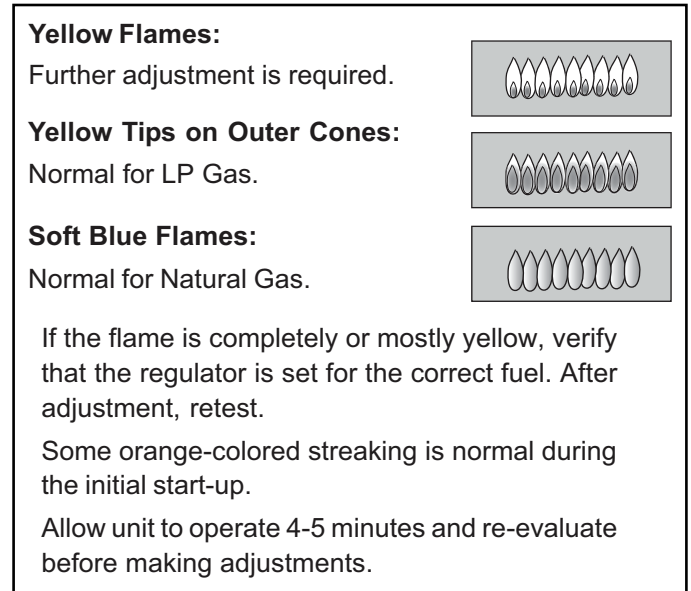

FIGURE 28: FLAME CHARACTERISTICS
**Test Flame: High Setting.** Turn burner on to HI. See *Figure 28* for appropriate flame characteristics.
While the bake burner is lit inspect the flame. See *Figure 28 on page 25* for proper flame characteristics. If the flame burns completely or mostly yellow, it is necessary to adjust the bake burner air shutter, see the Flame Adjustment procedure in the following section.
- Repeat procedure as needed until flame characteristics are acceptable (see *Figure 28 on page 25*).